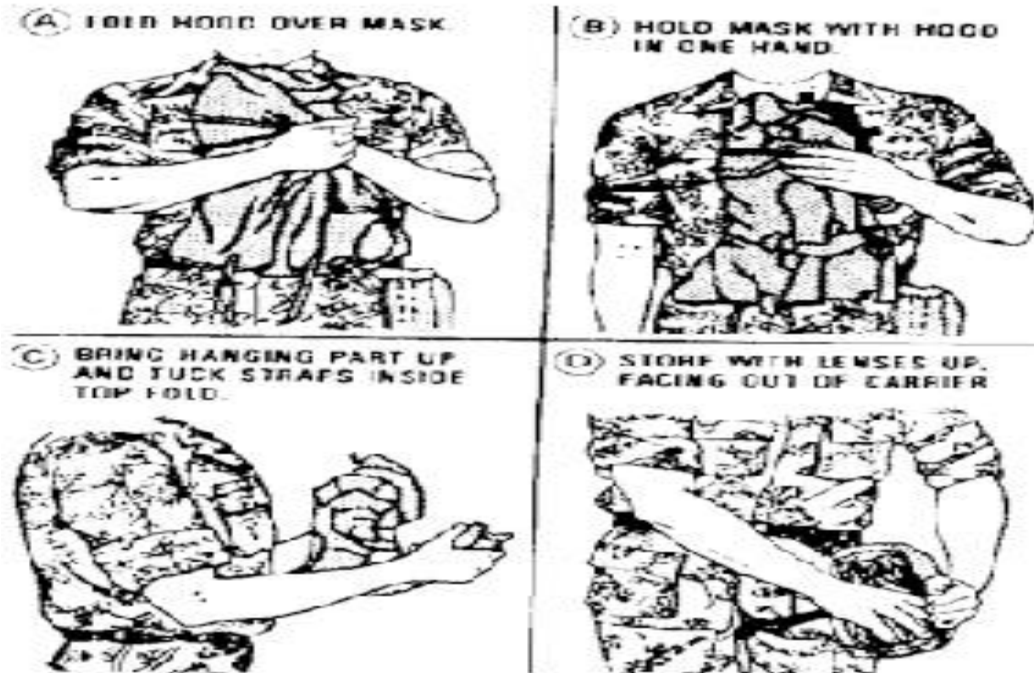

Figure E-53. Folding hood.
- c. Fold the hood over to either side of the mask (A in figure E-53) so that the mask and hood can be held with one hand (B in figure E-53).
- e. Tuck the straps inside the fold (C in figure E-53).
g. Insert the mask in the carrier with the lenses up and facing out toward the opening of the carrier (D in figure E-53) so the head harness hangs freely inside the carrier.